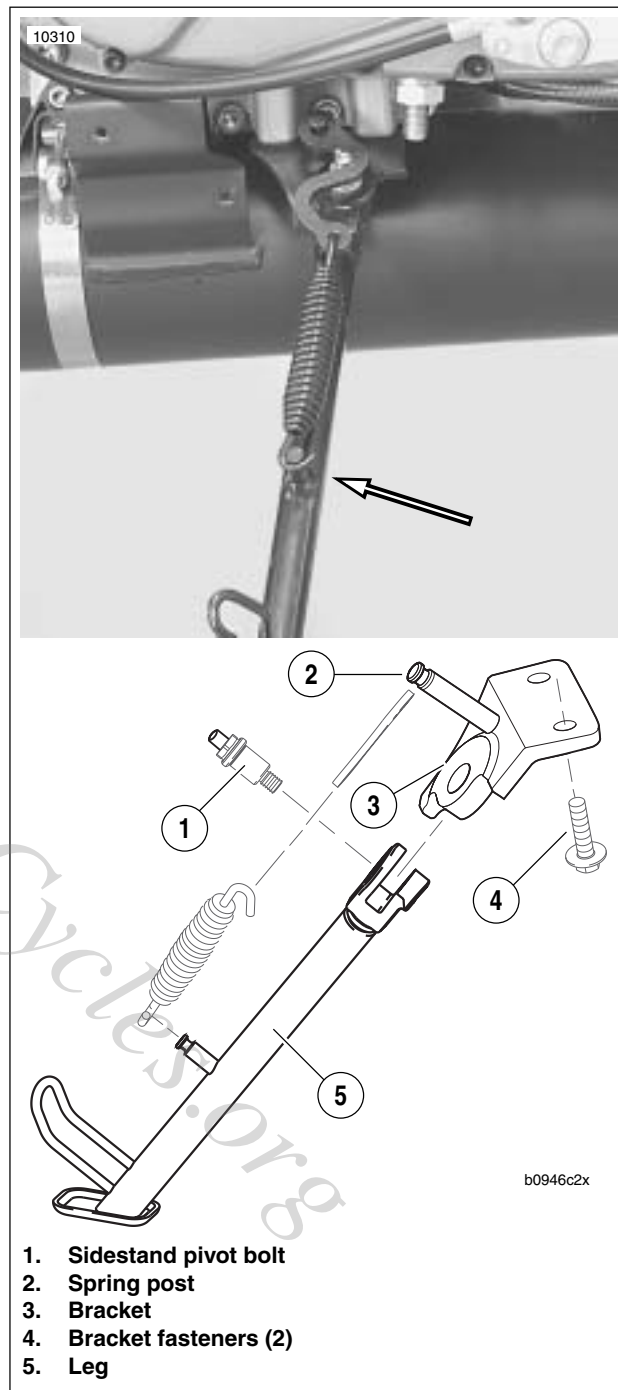

Figure 2-130. Sidestand Assembly (Extended)
2. See Figure 2-130. Remove fasteners (4) securing side-stand bracket (3) to frame.